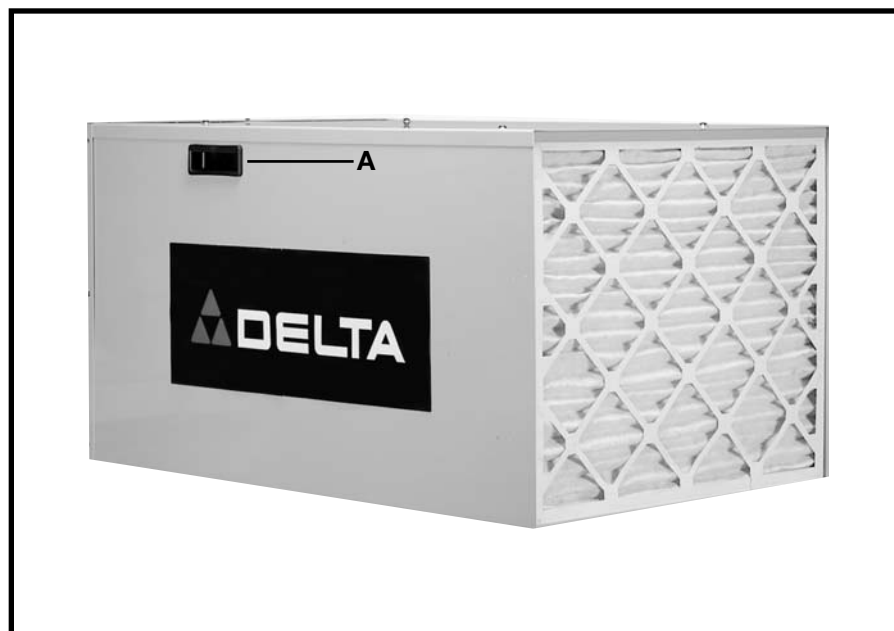

Fig.4
2. The air cleaner has convenient lifting handles located on both sides of the cabinet (A) Fig. 4. To avoid damage to the air filters, carry the air cleaner with the filters positioned away from your body. **CAUTION: This unit weighs 85 pounds.**